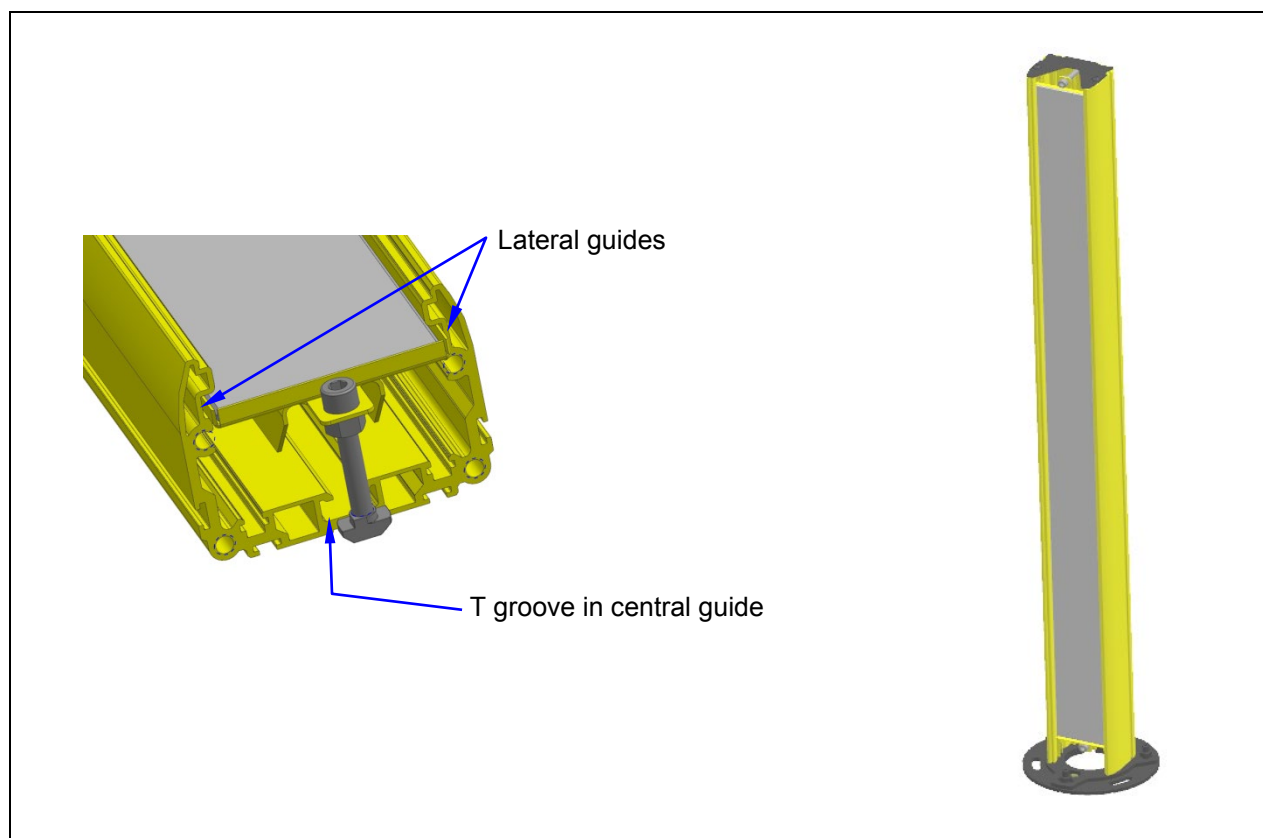

Fig. 5
Fix the sliding block on the screw. Insert the deviating mirror in the lateral guide and insert the sliding block in the T groove (Fig. 5).
- ▶ Install the deverting mirrors (PSEN op Mirror/1) into the protective column (PSEN op Protective Column/1) in the matching version using the PSEN op Protective Bracket Mirror/1 kit (s. Fig. 5). The "Order reference" table in the PSEN op Mirror/1 operating manual combines the recommended pairs of product and corresponding deverting mirror.